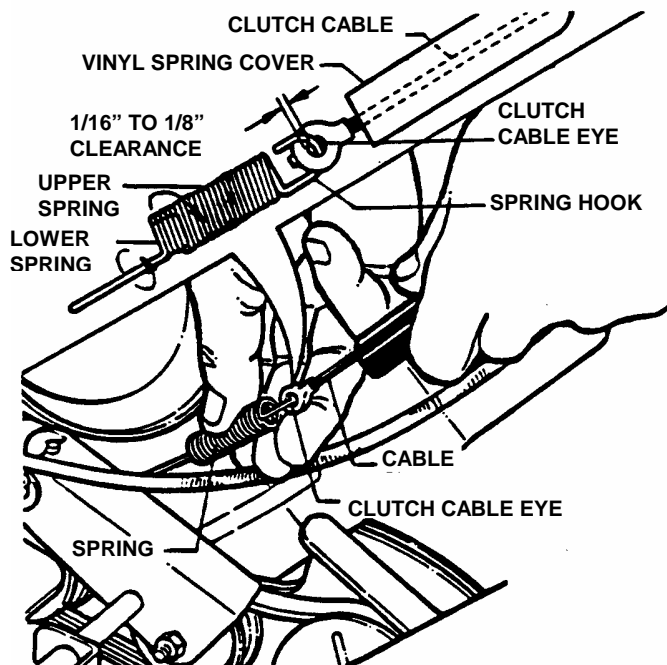

FIGURE 4.5
- The wheel drive control is properly adjusted when there is 1/16" to 1/8" clearance between the inside of the spring hook and the inside of the clutch cable eye with the wheel drive control released. See Figure 4.5.